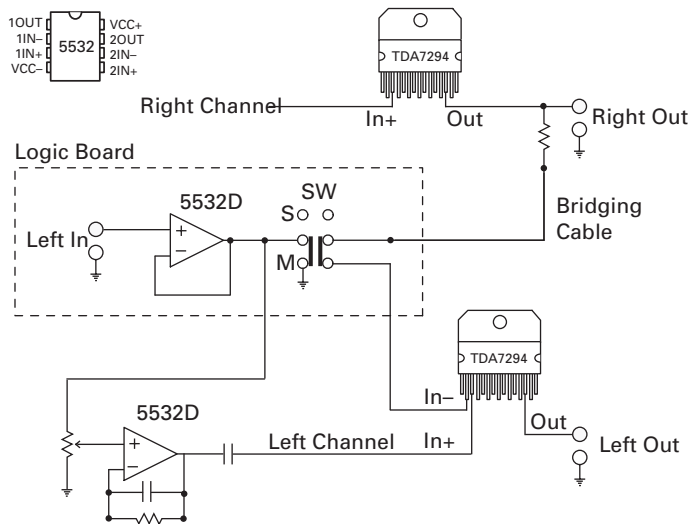

FIGURE 9-12 Simplified schematic of stereo-mono switching circuit
Now let's analyze the logic board in more detail. This task is less arduous than it could be because the designers did a good job of separating the amplifier functions on the power board from the switching and logic functions on the logic board. Let's start with the stereo-mono switch and function, using the simplified schematic in Figure 9-12 as a guide. For clarity, the logic board circuitry is represented by a single operational amplifier and the stereo-mono switch, SW. Similarly, the left channel signal chain on the power board is represented by a volume control, driver operational amplifier, and power IC.
When the stereo-mono switch is in the Mono position (M), as shown in Figure 9-12, the signal path is altered significantly. Now the output of the TDA7294 assigned to the right channel is sent to the inverting (-) input to the TDA7294 dedicated to the left channel via the coaxial bridging cable and series resistor. Any signal input to the left channel RCA jack is shunted to ground by the stereo-mono switch. This shunt essentially removes the remainder of the normal left channel signal chain from the circuit. Other than noise generated by the 5532D, no signal is presented to the noninverting (+) input of the left channel TDA7294.
The most important element of Figure 9-12 is the use of the inverting (-) input to the left channel TDA7294. This causes a 180-degree phase shift in the output of the left channel, relative to the output of the right channel. Recall that this phase difference is required for single speaker bridge amplification.